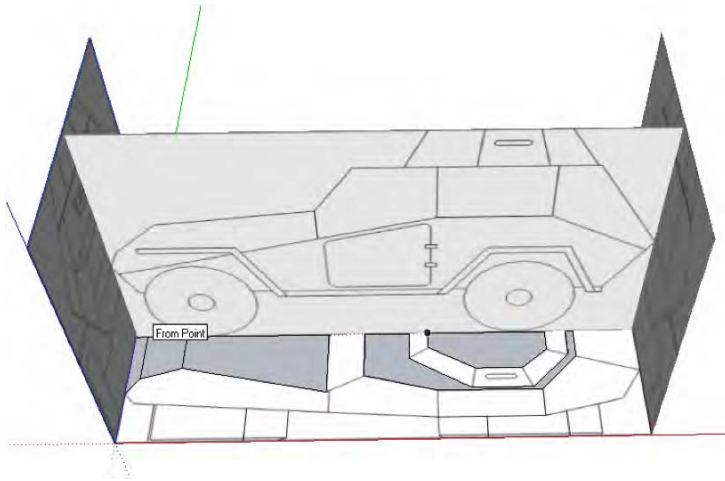

Figure 8–11. Outline of top surface of model
2. Now select the Move/Copy tool, copy each surface, and align it with the side view. The two surfaces at the end will be raised later (Figure 8–12). Notice the surface over the hood is not in alignment with the side image. You will need to align this to the side image.